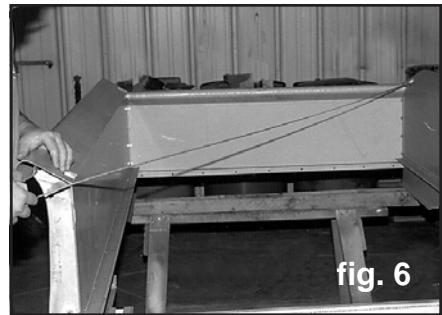

fig. 6
8. Measure crosswise from the front of the bed to opposite rear on both sides. These measurements should be within 1/16" of each other to ensure that the bed is square. Now tighten all bolts. See figure 6.